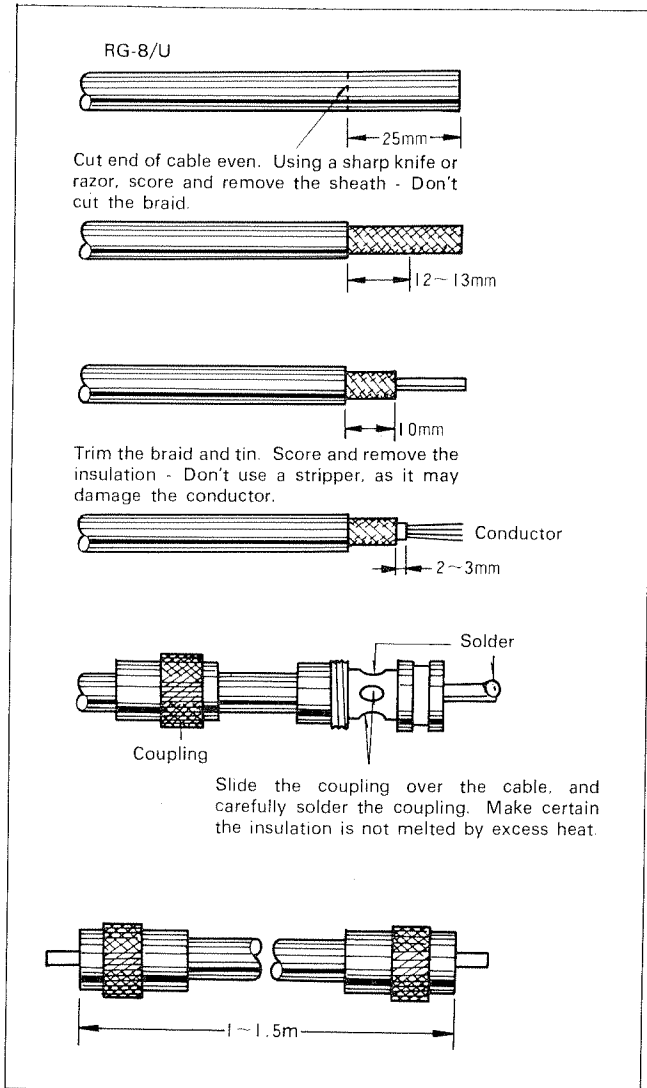

Fig. 3-1 Assembled UHF connector cable
<p>Section 1. Specifications ..... 3</p> <p>2. Introduction and features ..... 4</p> <p>3. Cabling requirements and preliminary instructions ..... 5</p> <p>4. Controls, indicators and connectors .... 6</p> <p>5. Operation ..... 8</p> <p>6. Circuit description ..... 12</p> <p>7. Adjustments and maintenance ..... 14</p> <p>8. Pan display operation ..... 14</p> <p>9. Schematic diagrams ..... 17</p> <p>Illustrations and tables ..... 19</p> <p>Figure 3-1. Assembled UHF connector cable ..... 5</p> <p>3-2. Assembling a BNC connector cable .... 5</p> <p>4-1. Front panel ..... 6</p> <p>4-2. Rear panel ..... 7</p> <p>5-1. Cabling for transmit and receive displays ..... 8</p> <p>5-2. TS-820S IF output matching ..... 9</p> <p>5-3. *Single tone input (2 examples) ..... 10</p> <p>5-4. *Keyed waveform (2) ..... 10</p> <p>5-5. *Two-tone modulation envelope (2) ... 10</p> <p>5-6. *Voice modulation envelope (2) ..... 10</p> <p>5-7. *Trapezoid waveforms (2) ..... 10</p> <p>5-8. Connection for Trapezoid waveform observation ..... 11</p> <p>5-9. *RTTY cross patterns (3) ..... 11</p>	<p>5-10. Cabling for RTTY cross pattern observation ..... 12</p> <p>5-11. *Lissajous' figure example (1) ..... 12</p> <p>6-1. Block diagram ..... 13</p> <p>7-1. Adjustment access (case bottom) ..... 14</p> <p>7-2. *Two-tone oscillator waveform (2) .... 14</p> <p>8-1. Installing the Pan Display adaptor ..... 14</p> <p>8-2. Pan Display adjustment ..... 15</p> <p>8-3. *Pan Display waveforms (3) ..... 15</p> <p>8-4. Pan Display output cable ..... 16</p> <p>8-5. TS-520 series IF sample cable installation ..... 16</p> <p>8-6. TS-820 series IF sample cable installation ..... 16</p> <p>*Scope display examples (number of conditions illustrated).</p> <p>Table 5-1. Control settings, transmit signal observation ..... 8</p> <p>5-2. Control settings, Trapezoid waveform observation ..... 10</p> <p>5-3. Control settings, RTTY cross pattern observation ..... 11</p> <p>5-4. Control settings, oscilloscope operation ..... 12</p>
When used in combination with the TS-820S, TS-520S or other transceivers, prepare one connecting cable (referring to Fig. 3-1).